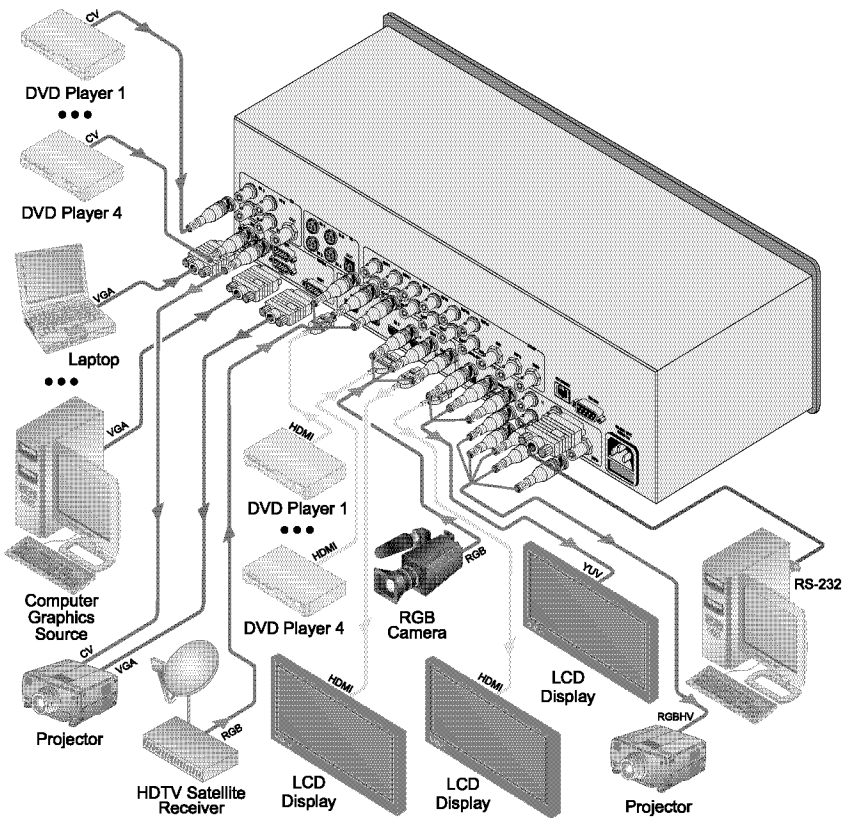

Figure 3: Connecting the VP-725xl Presentation Switcher / Scaler
To connect the **VP-725xl**, connect the following¹ to the rear panel, as the example in Figure 3 illustrates:
- Up to four s-Video sources to the 4-pin input connectors (not illustrated in Figure 3)
- Connect the UXGA connector to the UXGA acceptor, for example, a monitor (not illustrated in Figure 3)
6. Connect the power cord¹ (not illustrated in Figure 3).